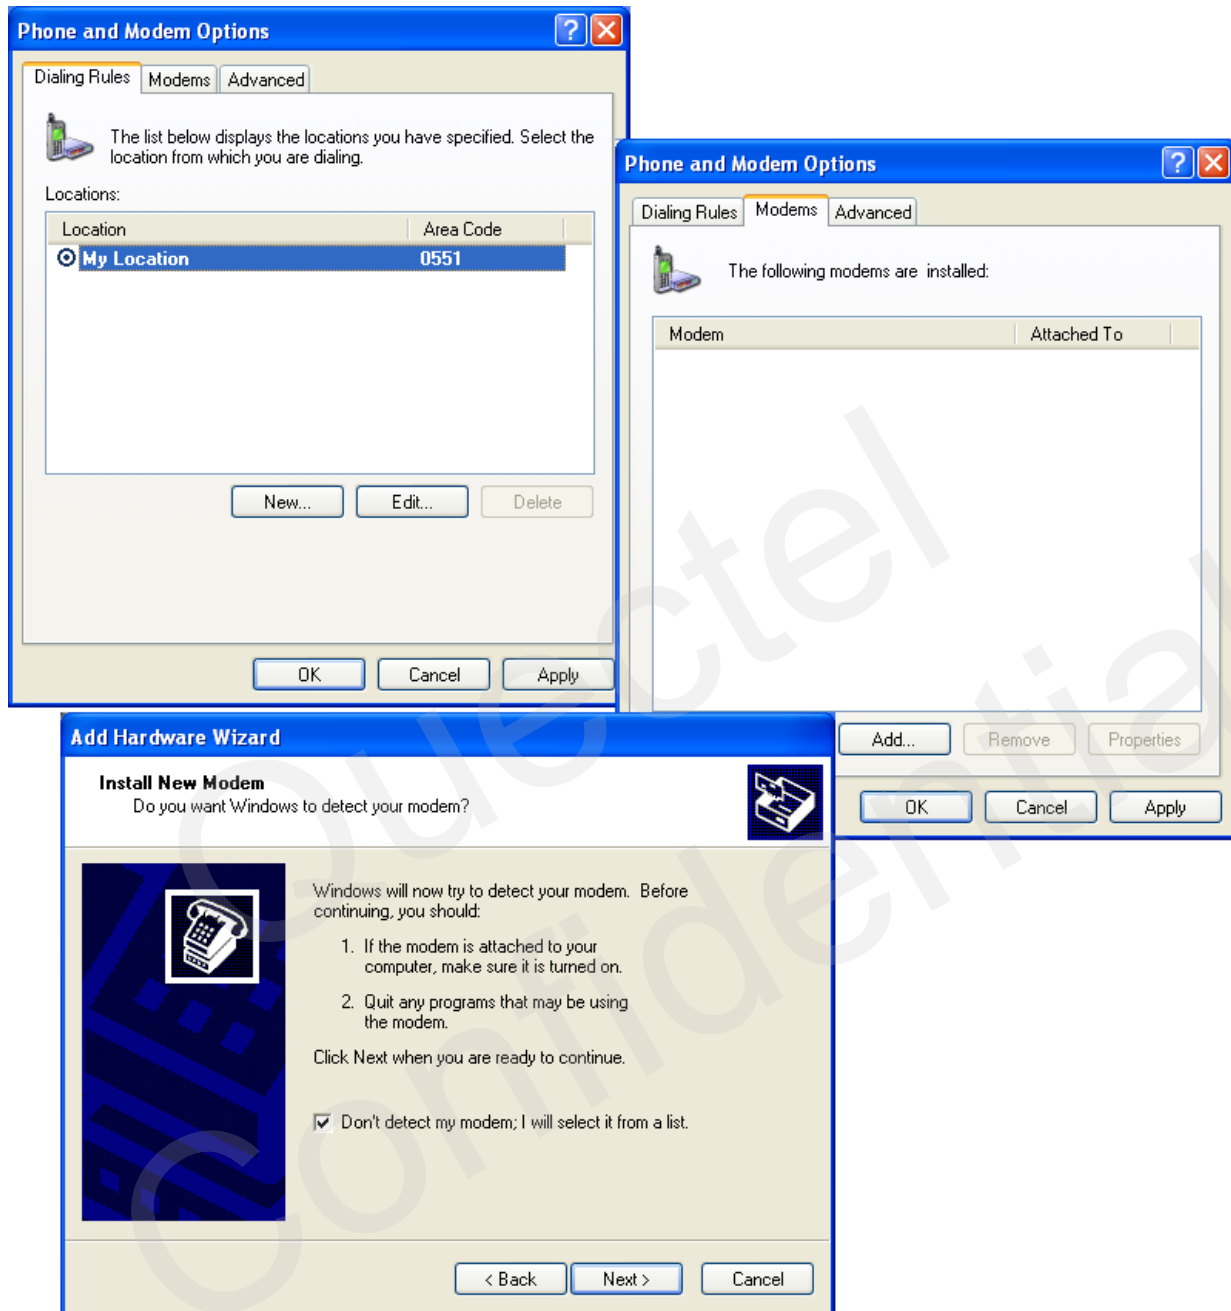

Figure 5: Add a Modem
2. Double click **“Phone and Modem Options”**, and select **“Modems”->“Add...”** to add a modem. Refer to Figure 5.